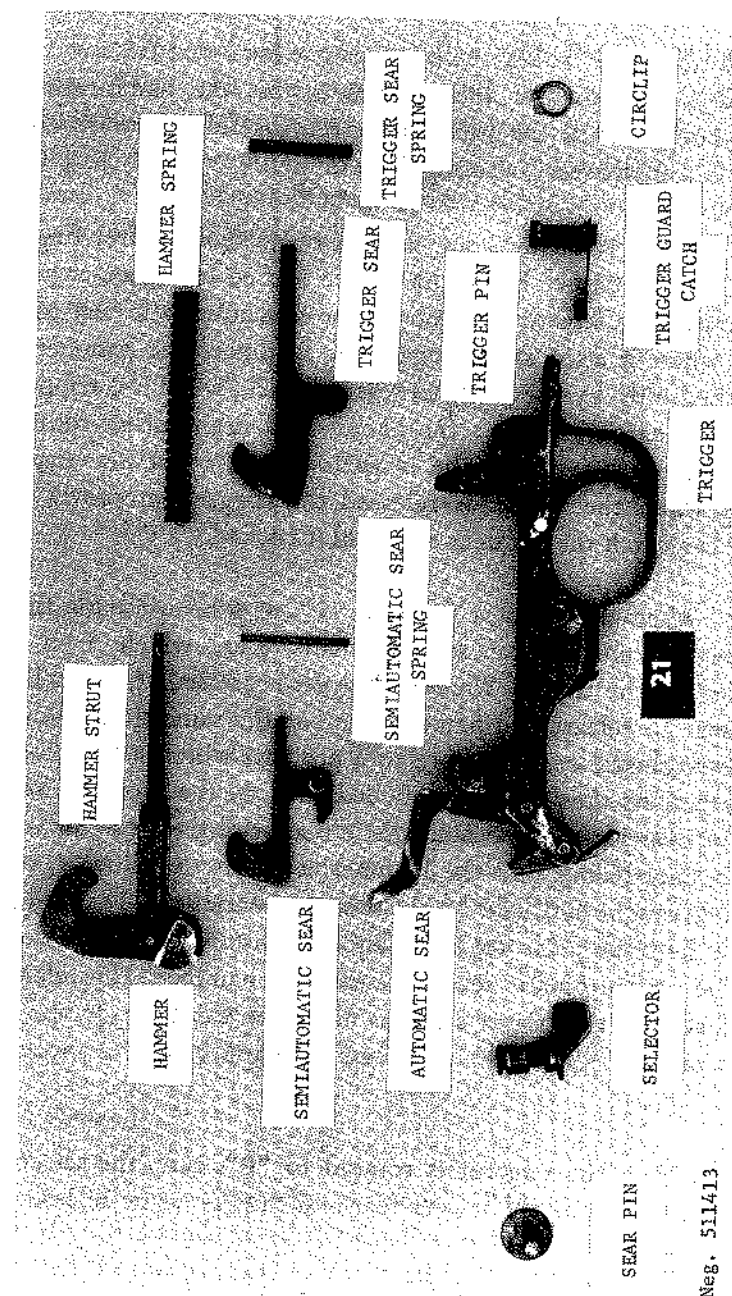

Figure 113. Type 68 trigger mechanism.
i. To reassemble the rifle, first engage the front of the stock with the ferrule on the gas cylinder (fig 111) and seat the stock onto the receiver. Fold the bayonet. Cock the hammer (fig 113), then press the automatic sear (fig 113) out of engagement with the hammer. Place the trigger group into the stock and guide the automatic sear into its slot at the left rear side of the magazine opening in the receiver. Seat the pins in the front of the trigger group into the recesses in the receiver, then force the rear end of the trigger group down against the stock. Rotate the trigger guard catch to the rear until it is flush with the guard.
e. The trigger mechanism has three sears (fig 113). The automatic sear is located in front of the hammer and is actuated by the bolt carrier (d above). The trigger sear is to the right, behind the hammer and the semiautomatic sear is to the left. The trigger sear always moves when the trigger is pressed or released, but the semiautomatic sear functions only when the selector is set at "1" or semiautomatic fire.